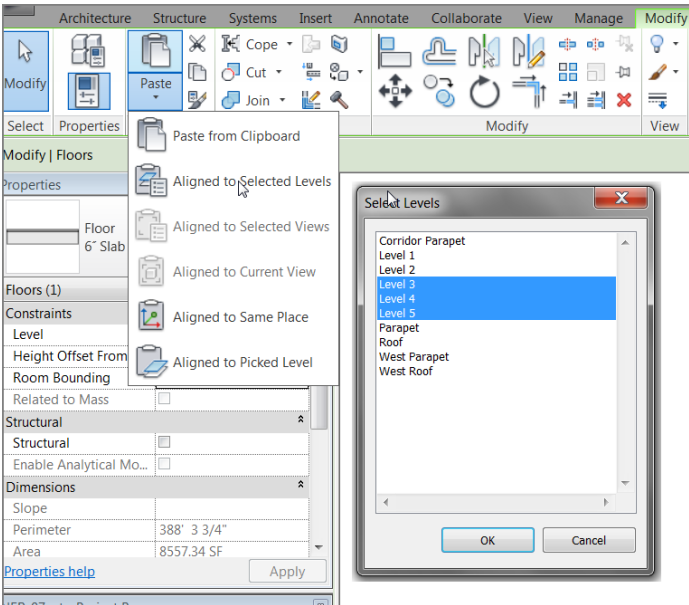

FIGURE 6.32: Selecting the levels where you want the slab to be copied
4. From the Paste flyout on the Clipboard panel of the Modify tab, click Aligned To Selected Levels, as shown in Figure 6.32.
5. The Select Levels dialog box appears, where you’ll choose the levels to which you want to paste your floor. Choose Levels 3, 4, and 5 (see Figure 6.32; use Ctrl to select more than one level).